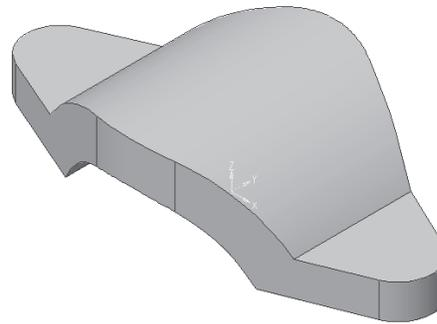

Figure 3-81 Cut feature added to the feature
- Extrude the sketch created on the **XY Plane (top)** plane to create a cut feature, refer to Figure 3-81.
8. Choose the **OK** button. The isometric view of the model, after creating the base feature, is shown in Figure 3-81.